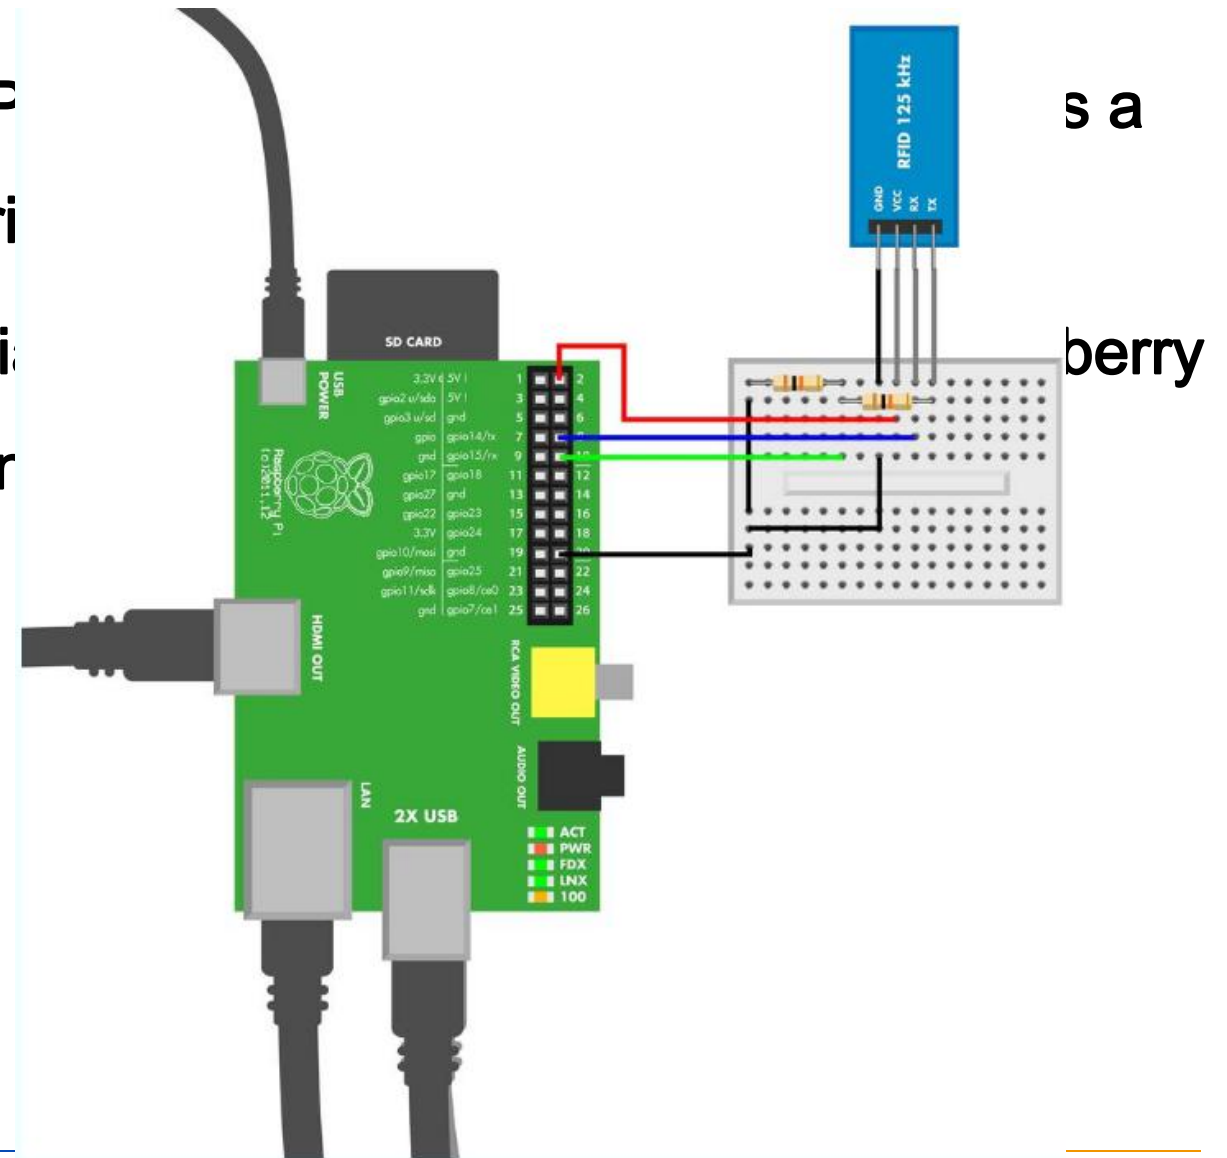

Figure 9-10. Raspberry Pi connections for the RFID reader
- Figure 9-10 shows the connection diagram for the Raspberry Pi. Wire it up as shown, and then run the following command: